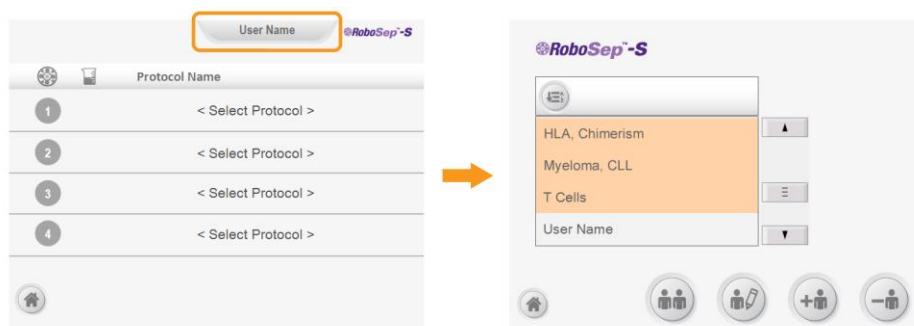

Figure 14. Accessing the User Profile Screen from the Run Samples Screen. Preset profiles are highlighted in orange.
To access user profiles, select  [Users] on the Home screen or simply select the User Profile tab at the top of the Run Samples screen. All RoboSep™-S user profiles will be listed in the User Profile screen (Figure 14).
1. Select  [Add user profile] from the User Profile screen (Figure 14).
1. Select  [Copy user profile] from the User Profile screen (Figure 14).
1. Select  [Delete user profile] from the User Profile screen (Figure 14).